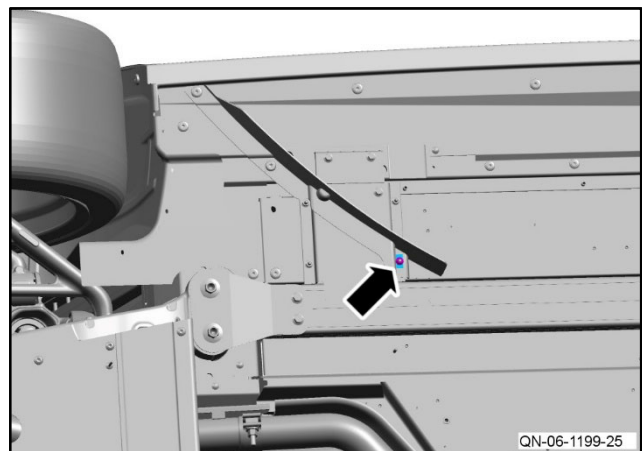

Figure 34
- 33 Install and torque the nut that attaches the ride side aero fence to the vehicle body to 5 Nm (refer to Figure 34).